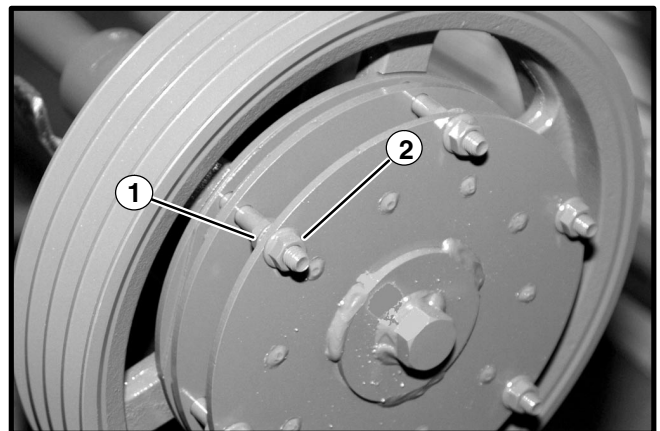

Figure 8
1. Loosen the six (6) inner locknuts located on the inside of the clutch spring plate (See Fig. 8).
2. Carefully remove and retain the six (6) outer lock nuts to allow the spring plate to be removed. Remove the six (6) inner lock nuts and disassemble the the clutch.